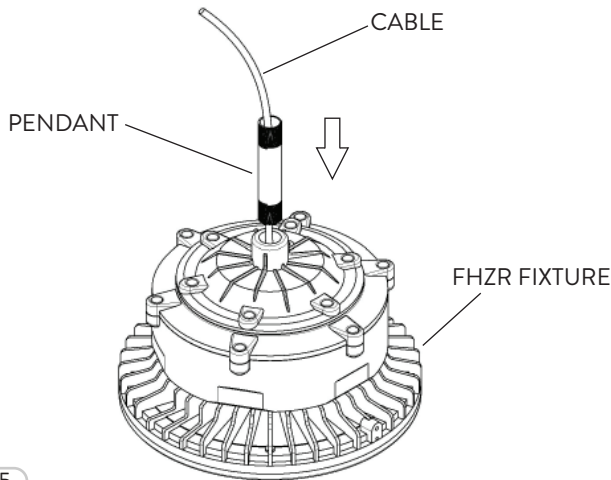

FIG. 5
- 2 Run the Cable through the Pendant and screw in the threaded Pendant into the FHZR fixture (Fig. 5). Refer to the wiring diagram.